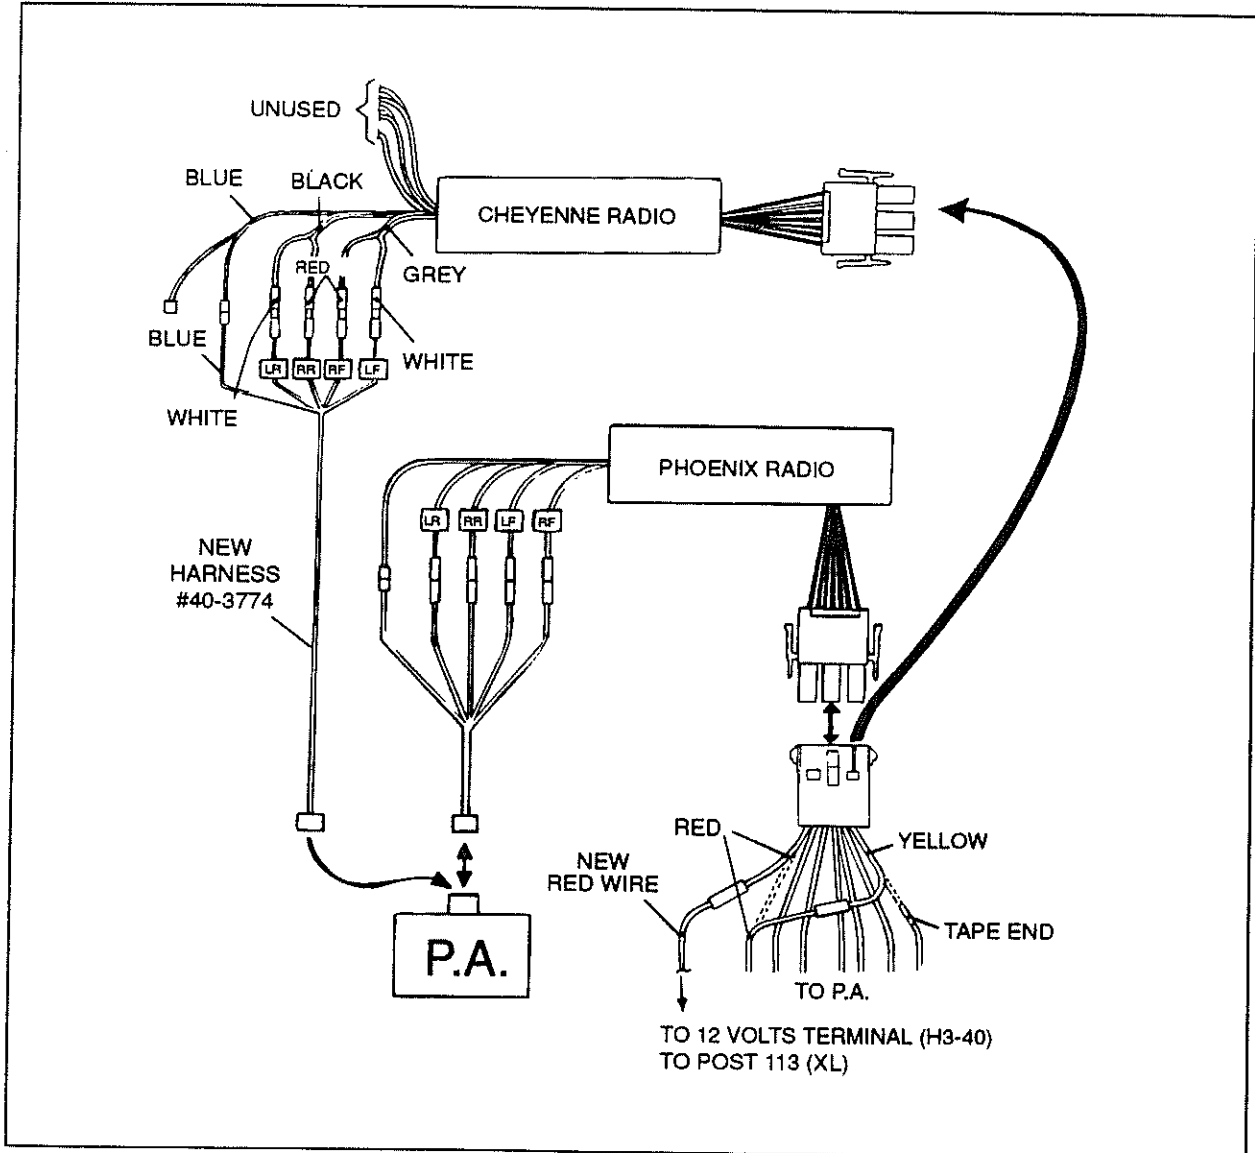

Fig. 3
1. Identify at back of "Phoenix" radio, the harness consisting of wires identified LR, RR, RF and LF, trace this harness up to its connection to the Public Address (PA) control box, disconnect it from this place then connect new wire harness #40-3774.
2. Connect each wire on the other end of new wire harness to the corresponding wire of "Cheyenne" radio according to the color code in figure 3.
6. Identify the red wire inserted in position #9 of connector, cut it at 3" (76 mm) from connector, strip wire extremities, then join and solder the red wire coming from P.A. to yellow wire coming from connector (see fig. 3).